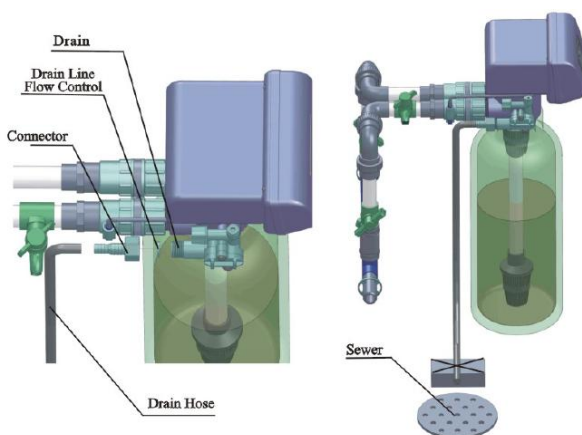

Figure1-4
- If the valve belongs to time clock type, there are no step ② and ③.
⑤ Install drain pipeline
- a. As the Figure 1-4 shows, slide the drain hose connector into drain outlet.
- d. Locate the drain hose well as the Figure1-4 show.
●Be sure not connect drain with sewer, and leave a certain space between them, avoid wastewater be absorbing to the water treatment equipment, such as showed in the Figure1-4.